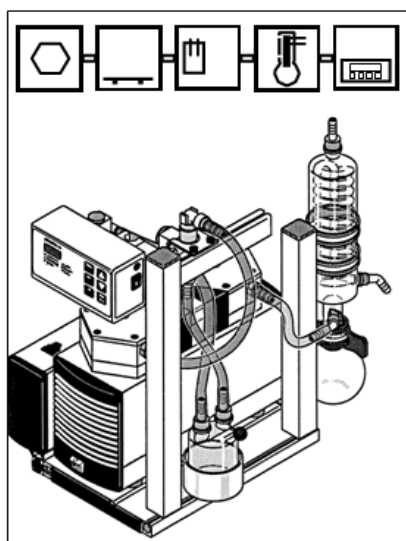

Figure 1: chemvak system CSC, for example pump model CSC610 (symbolic)
Slide the support (more exactly: its clamp assembly) into the end of the Baseplate Mounting Slot (positioning as shown in figure 1).
**Vacuum Controller/ Electrical Supply Unit** See also figure 1.